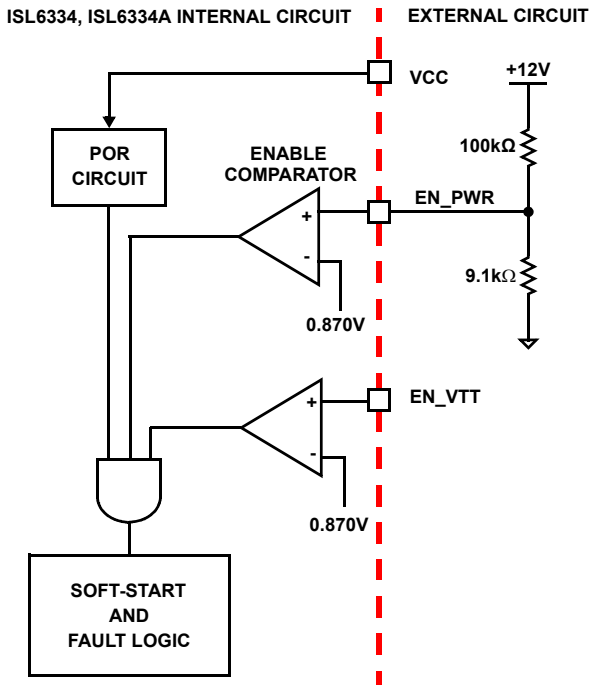

FIGURE 12. POWER SEQUENCING USING THRESHOLD-SENSITIVE ENABLE (EN) FUNCTION
2. The ISL6334, ISL6334A features an enable input (EN_PWR) for power sequencing between the controller bias voltage and another voltage rail. The enable comparator holds the ISL6334, ISL6334A in shutdown until the voltage at EN_PWR rises above 0.870V. The enable comparator has about 130mV of hysteresis to prevent bounce. It is important that the driver reach their POR level before the ISL6334, ISL6334A becomes enabled. The schematic in Figure 12 on page 21 demonstrates sequencing the ISL6334, ISL6334A